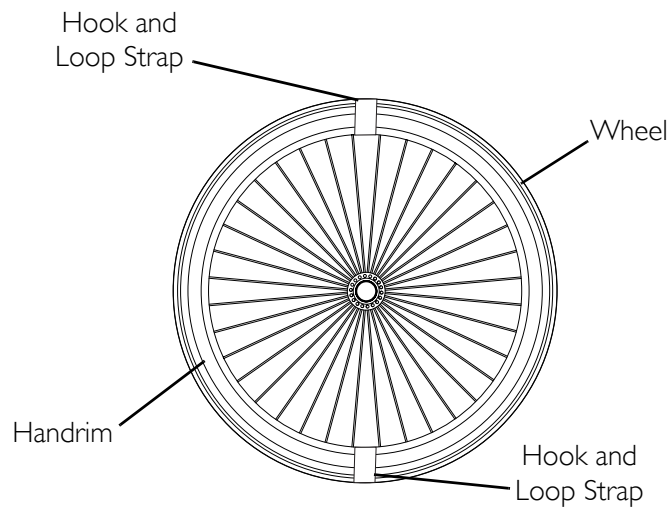

FIGURE 2 Removing/Installing Handrims with Tabs
NOTE: For this procedure, refer to FIGURE 2 on page 4.
8. Secure the wheel to the handrim and thumb guard with the six mounting screws and locknuts (Detail "A" of FIGURE 2).
9. Position hook and loop straps at opposite ends of the wheel (Detail "B" of FIGURE 2).